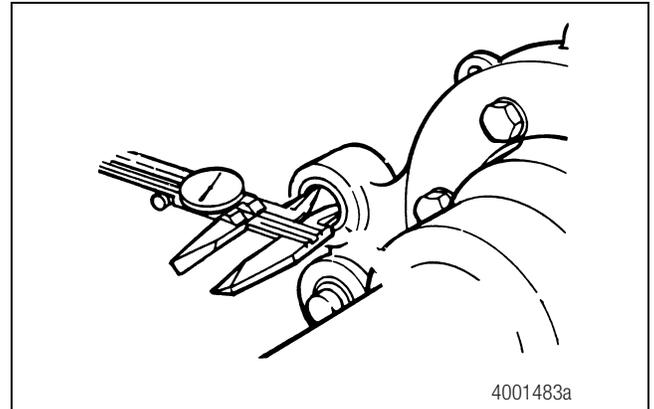

Figure 3.5
1. Check the inside diameter of the anchor pin bushings. Figure 3.5. The inside diameter of the bushing must not exceed 1.259-inches (31.98 mm). Replace worn bushings.